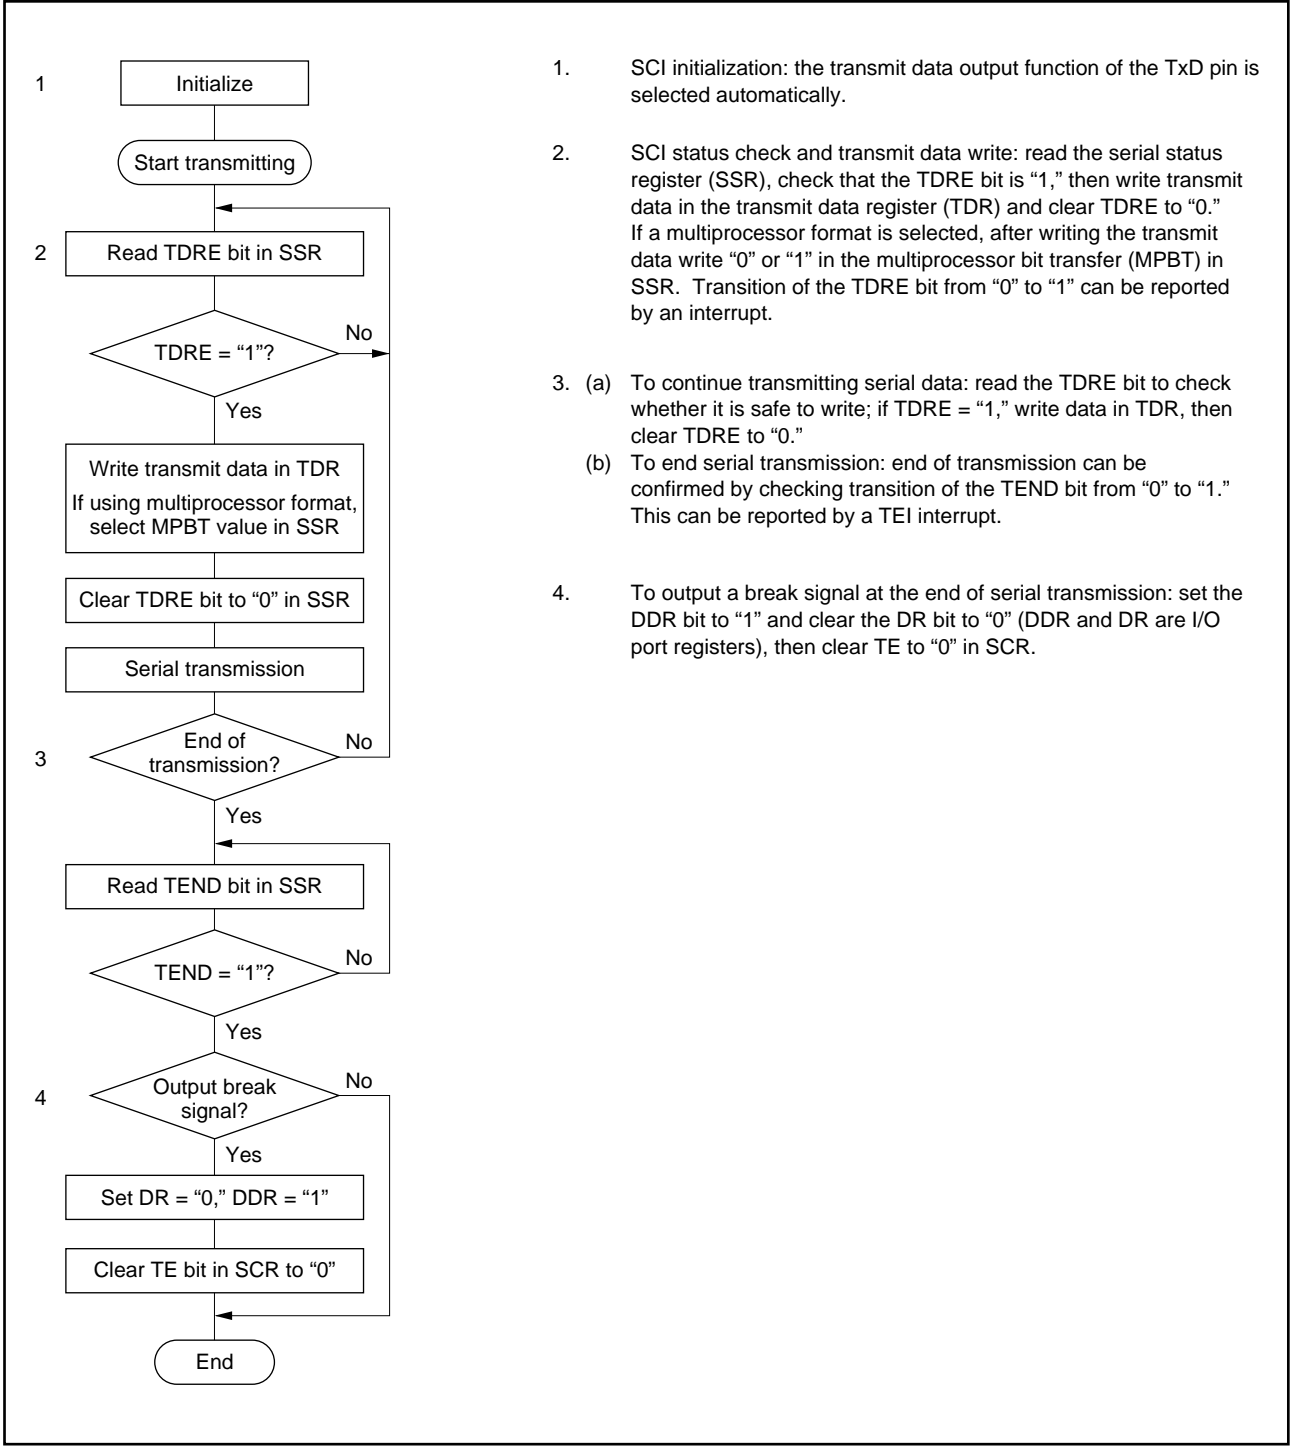

Figure 8-5. Sample Flowchart for Transmitting Serial Data
- **Transmitting Multiprocessor Serial Data:** See figures 8-5 and 8-6.